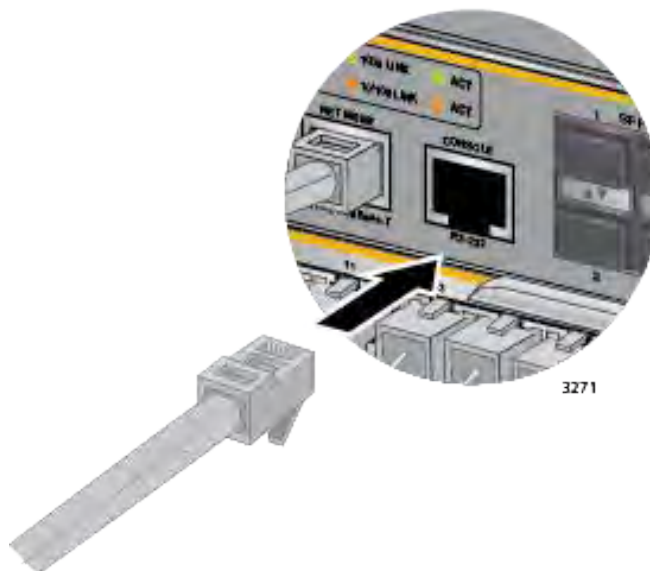

Figure 155. Connecting the Management Cable to the Console RS-232 Port
1. Connect the RJ-45 end of the management cable included with the AT-SBx81CFC960 Controller Fabric Card to the Console RS-232 port on the front panel of the AT-SBx81CFC960 Control Card, as shown in Figure 155. If the chassis has two controller cards, you may use the Console RS-232 port on either card to establish a local management session with the chassis.